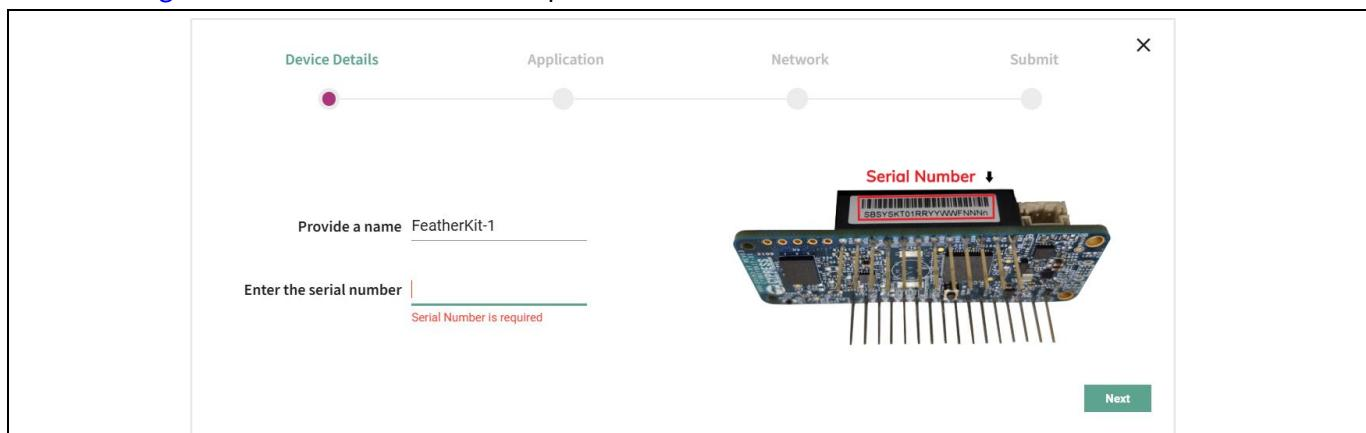

Figure 9 Add device wizard
2. On the **Device Details**, provide a name for your device, and enter the development kit serial number as shown Figure 9. Click the **Next** button to proceed further